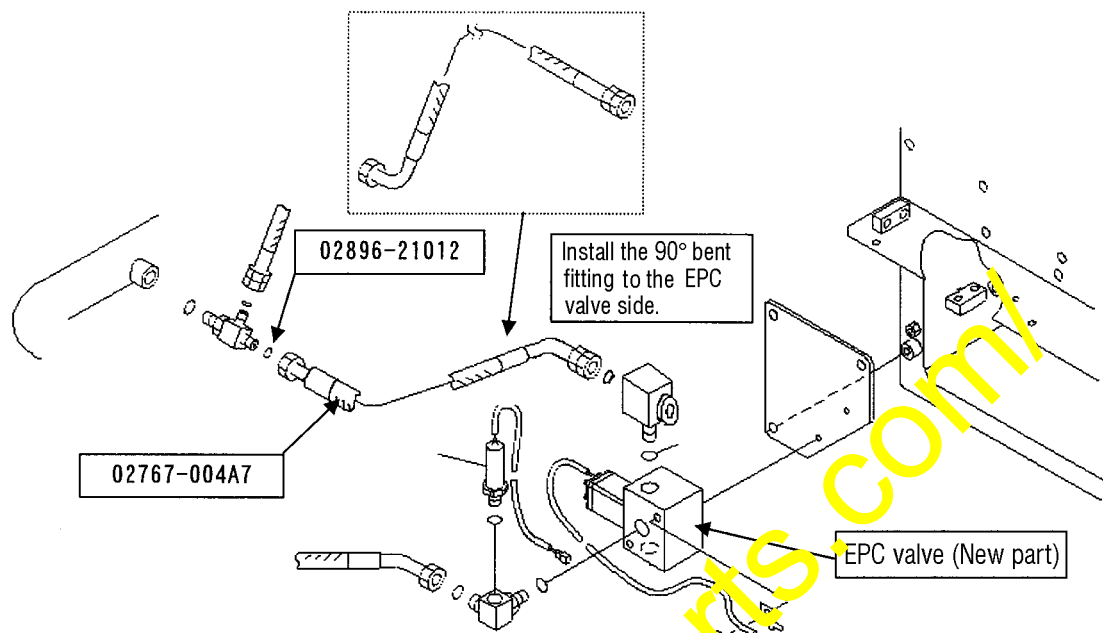

Fig. 8
- 5) Install the drain hose (02766-004A7) for the EPC valve in opposite direction to the direction before starting this modification work. (Refer to Fig. 8.)